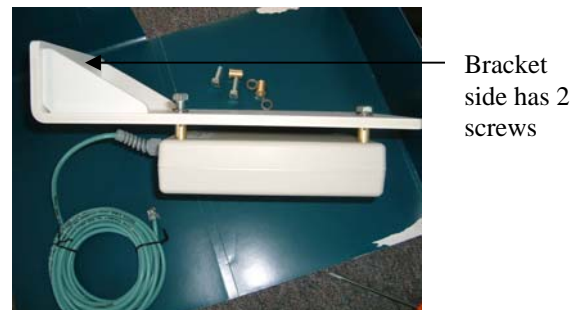

Figure 7-5. Bracket with RDR attached
5. Tighten bolts into threaded spacers on RDR box as shown in Figure 7-5 to attach the RDR to the bracket.